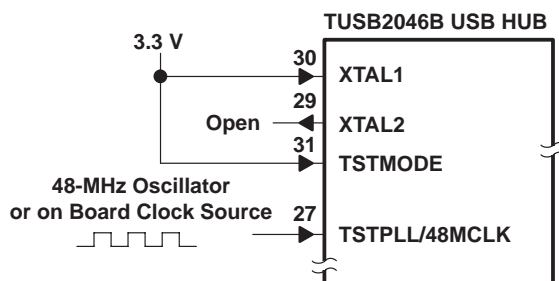

Figure 8. 48-MHz Input Clock Configuration
- A 48-MHz input clock configuration is shown in Figure 8.